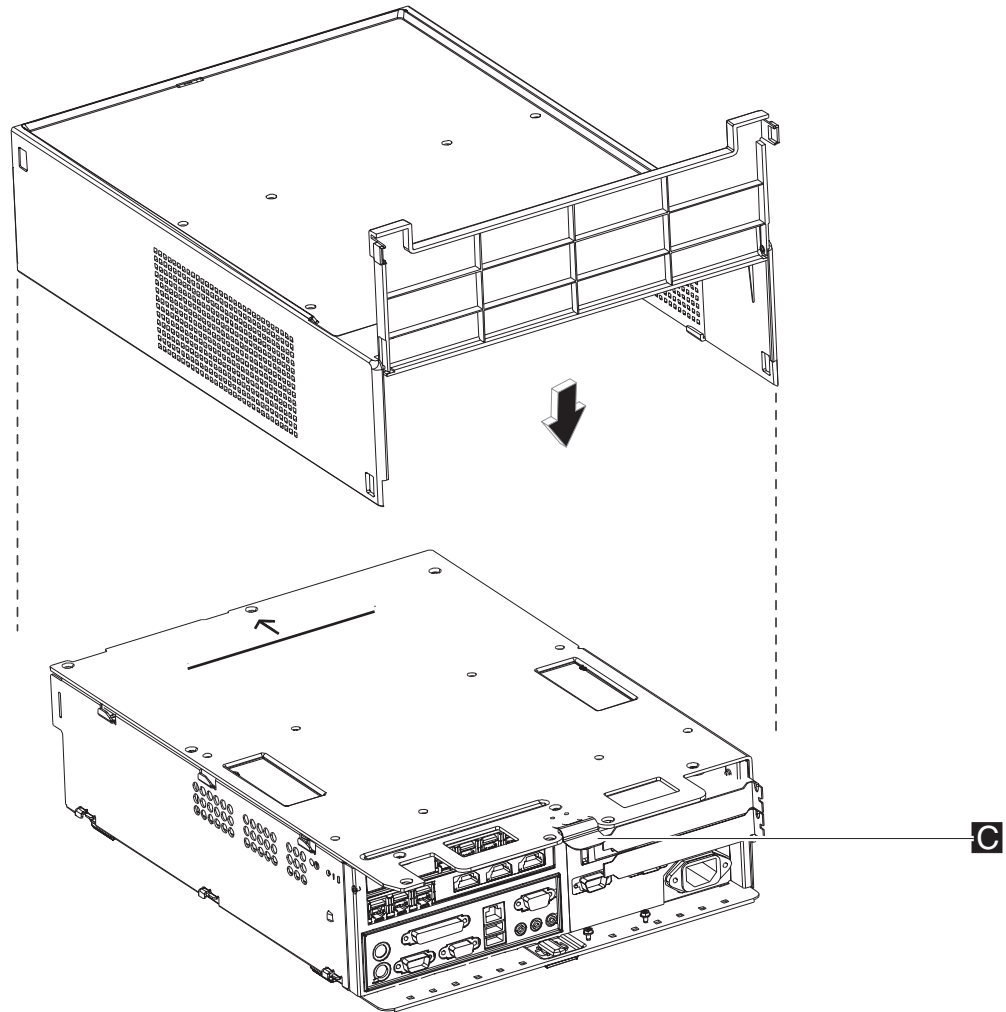

Figure 19. Replacing the top cover
3. See Figure 19 and locate the metal holding clip, **C**, located in the rear center of the top cover. Push this clip downward and push the cover backward a few inches before lifting upward to remove.